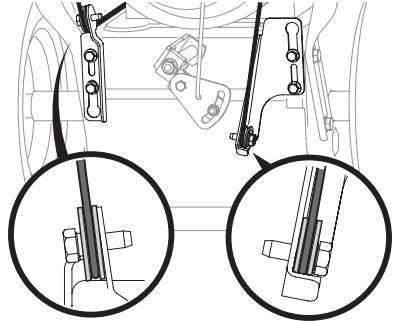

Figure 2
4. Observe lower rear area of equipment to be sure both cables (if equipped) are aligned and seated properly in roller guides (Figure 2).